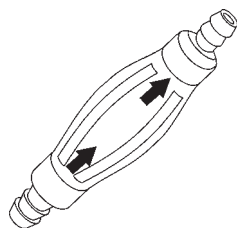

Figure 29. Priming Bulb
- Squeeze the water pump **priming bulb** (Figure 29) until water begins to flow through the water lines. If the pump is working correctly, the cutting blade should be covered with a steady water mist. This will keep the blade cool.